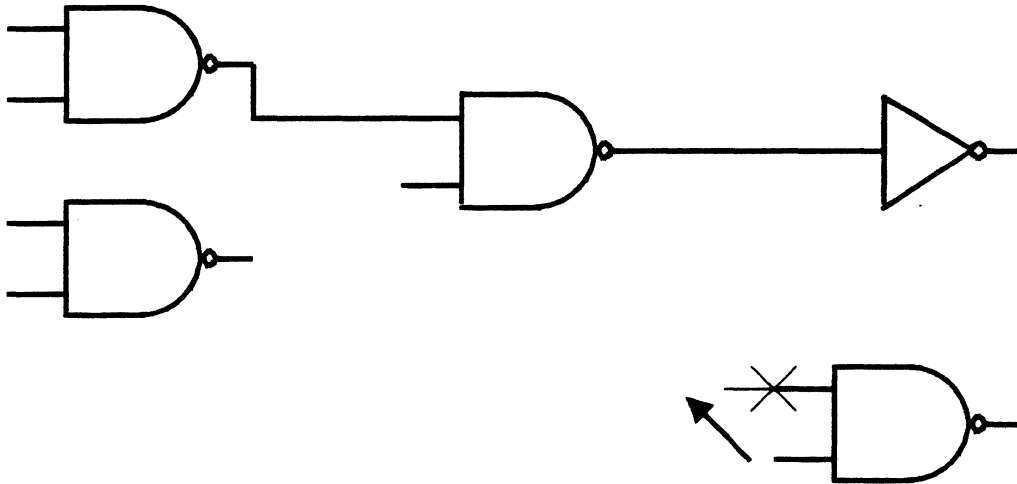

Figure 2.26
- 3) The system deletes the net segment, and displays an "X." Moving the cursor moves the "X" along the net segments, or symbol connection points the segment connects. Move the "X" to the first new endpoint of the net segment, either a junction or connection point. Press the left mouse button. The "X" remains stationary (figure 2.26).